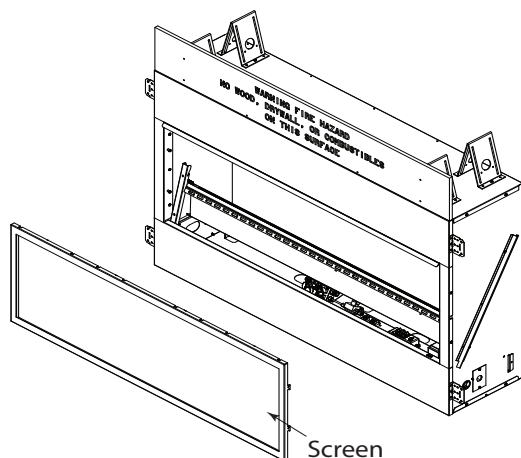

Figure 2
1. Remove the screen from the appliance. See Figure 2.